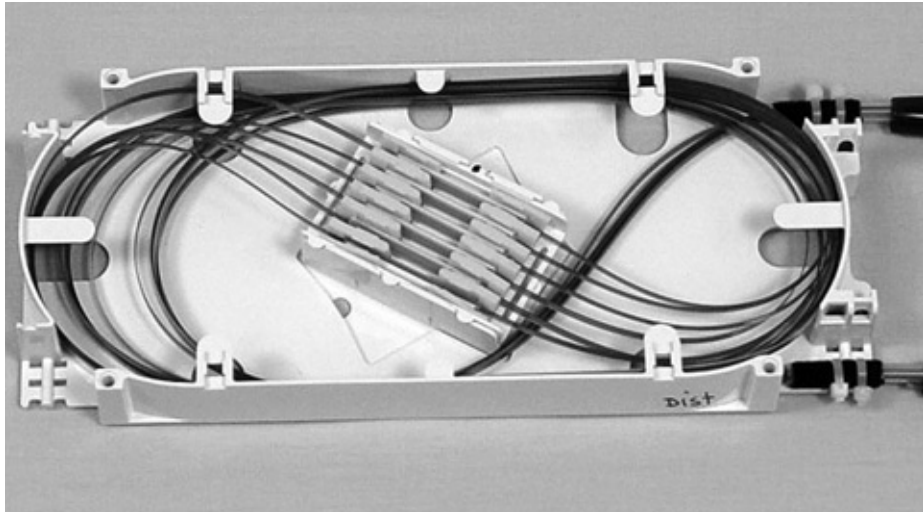

Figure 39. Example of Completed Splice
10. Figure 39 shows a completed splice tray with a ribbon fiber heat fusion splice.